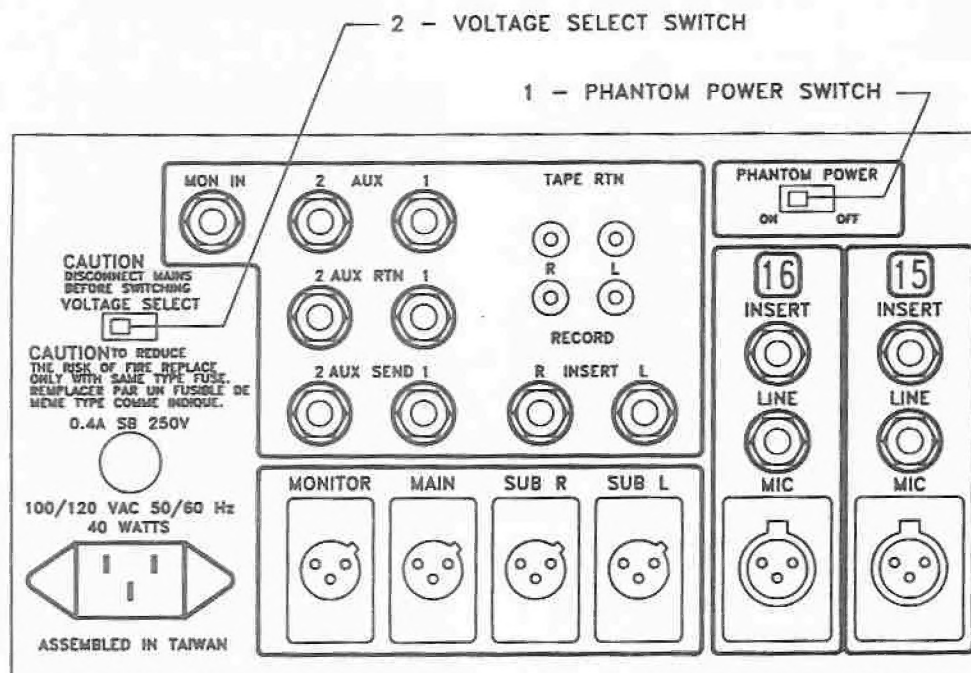

Figure 8. Rear panel switches.
4.5 Rear Panel Switches (Refer to Figure 8.)